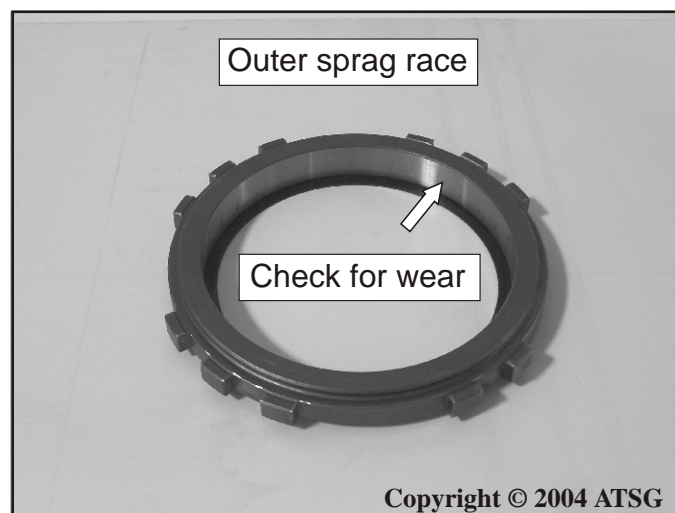

Figure 152
98. Inspect the area where the sprag rides, in the outer race, for wear or scoring. Replace as necessary. See Figure 152.